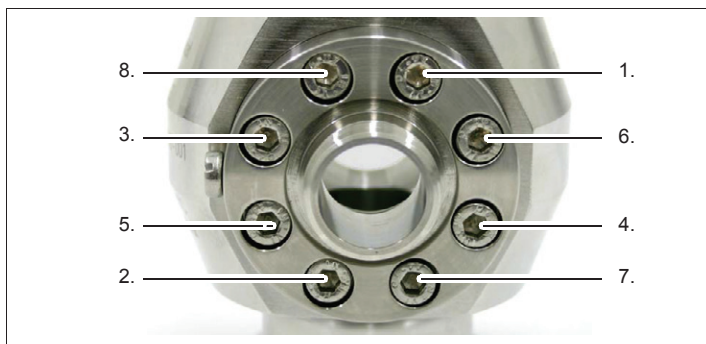

Fig. 21 Bolting sequence
11. Tighten screws according to Fig. 21 with pre-torque setting 1.0 Nm.
12. Tighten screws according to Fig. 21 with final-torque setting 4.5 Nm.